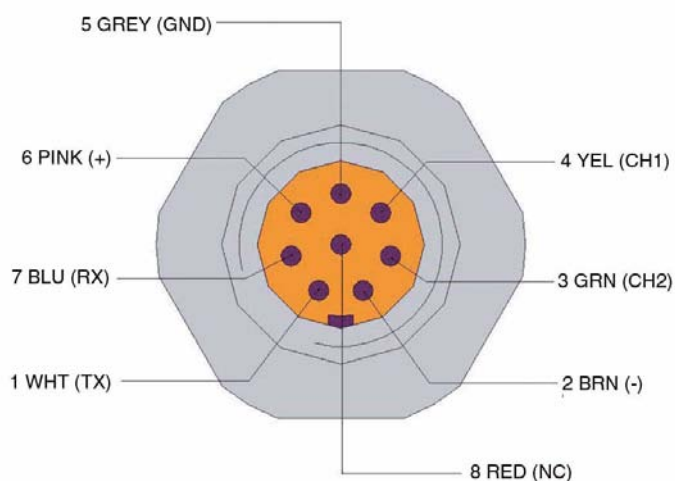

Figure 26 Wiring of the M12 (8-Pin) Connector
- Connect to the M12 connector using a serial cable with the proper wiring. The wiring of the M12 connector is described in Figure 26 on page 65. Note that you also have to provide the operation power for the barometer (10 ... 35 VDC) via the cable.